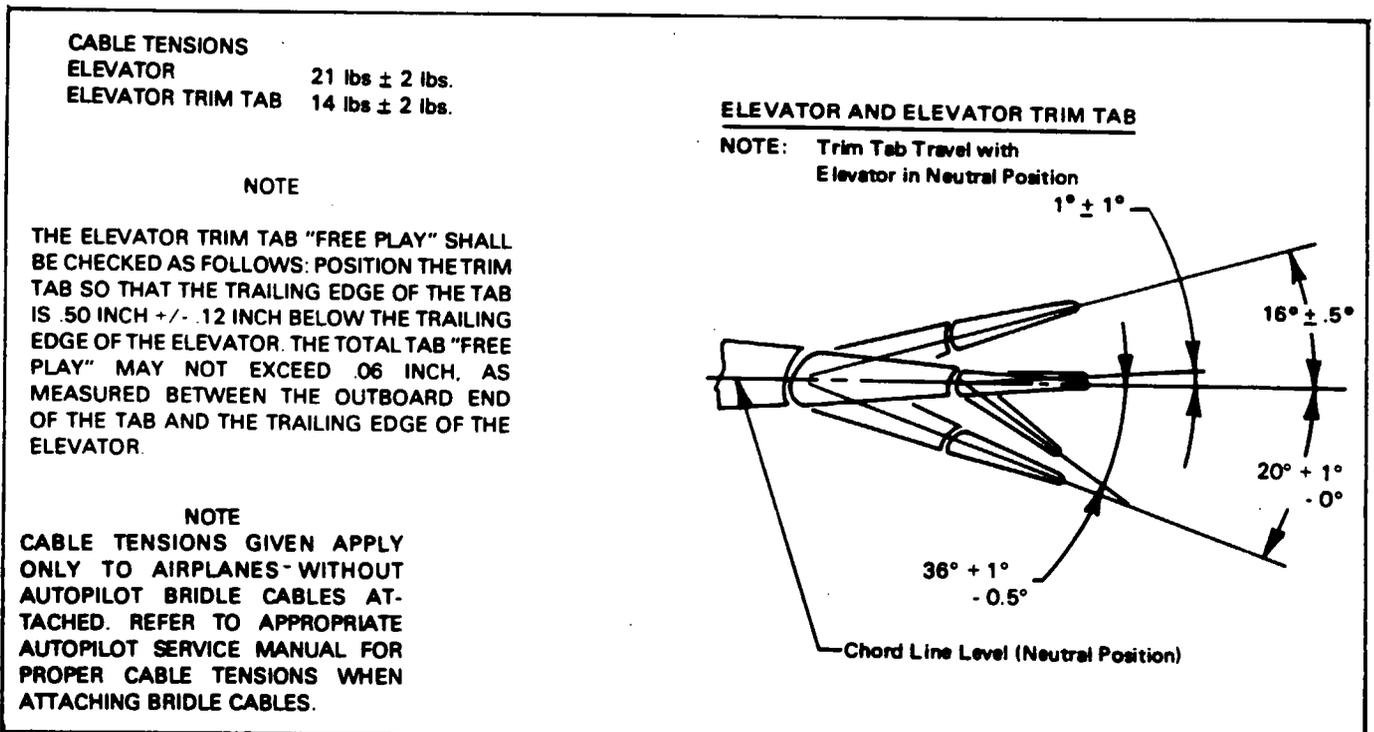
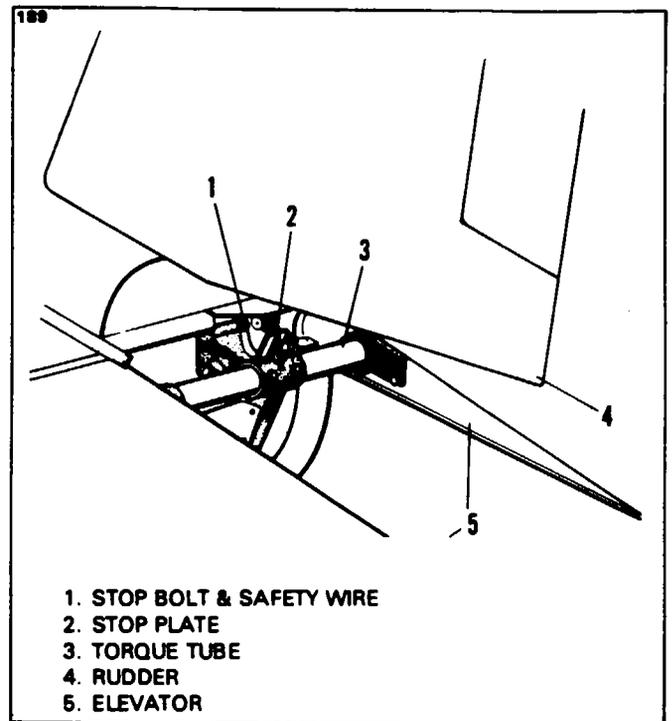

Figure 27-19. Elevator and Elevator Trim - Travels and Cable Tensions
Figure 27-21. Elevator Travel Stops
3. Set cable tension (per Figure 27-19), check rigging and adjustment.
4. Check cable tension per Figure 27-19 and rigging and adjustment.
4. With the elevator bellcrank neutral, adjust the turnbuckles at fuselage station 110.50 to obtain cable tension as given in Figure 27-19 and correct tension to ambient temperature per Chart 2702. Allow the control wheel to neutralize fore and aft. The neutral position of the control wheel is 8.75 inches as measured from the instrument panel along the underside of the control column to the wheel.
5. With the elevator neutral, place a bubble protractor on the inboard section of the elevator and establish neutral or zero on the protractor. Move the elevator up until the control arm contacts its stop. (Refer to Figure 27-21.) Check the up travel as given in Figure 27-19. Adjust the stop screw in or out to obtain proper adjustment. Move the elevator down and check and adjust by the same method. Tighten adjustment screw locknuts and torque to 20-40 inch pounds. The elevator control arm should contact its stops before the control wheel contacts its stops.
8. Set cable tension with the turnbuckles at station 291.00 per Figure 27-19 and check rigging and adjustment.